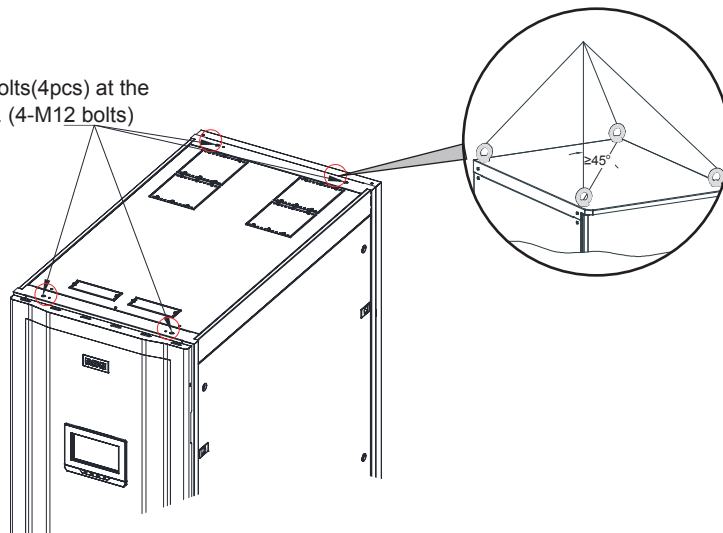

Figure 4-8: Lifting diagram schematic
1. Lift the UPS to an accurate installation location with a lifting device (see Figure 4-8 for the details of the UPS lifting position)